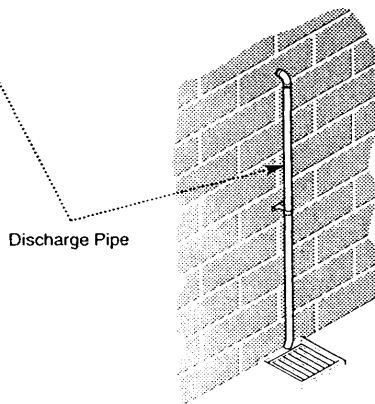

Fig. 9
2. The pressure relief discharge pipe should be not less than 15mm dia, run continuously downward, and discharge outside the building, preferably over a drain. It should be routed in such a manner that no hazard occurs to occupants or causes damage to wiring or electrical components. The end of the pipe should terminate facing down and towards the wall (Fig. 9).